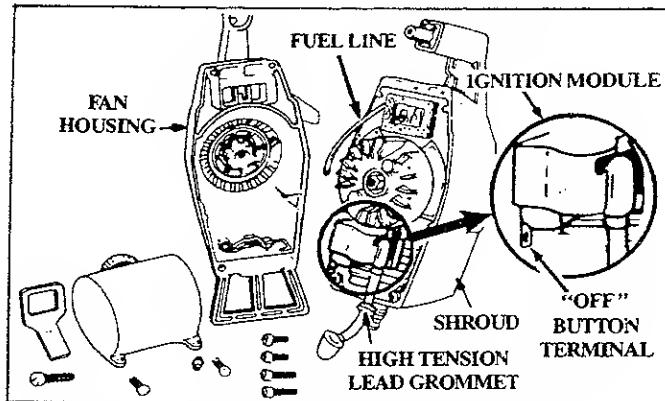

Figure 26
6. Slide high tension lead grommet from slot in fan housing. Figure 26.
7. Separate fuel line leaving the connector in the end attached to the fuel tank. Figure 26.
8. Separate the fan housing completely from the shroud. Figure 26.
**CAUTION:** Before replacing the fan housing, make certain that the "off" button terminal on the ignition module is not bent. See insert, Figure 26.
24. Position the "off" button terminal as shown. Figure 26.
26. If the engine will not stop, move choke to the "On" position, (Figure 8) to stop engine. Disassemble fan housing and be sure the "off" button terminal (Figure 26) is in the correct position. Reassemble parts.